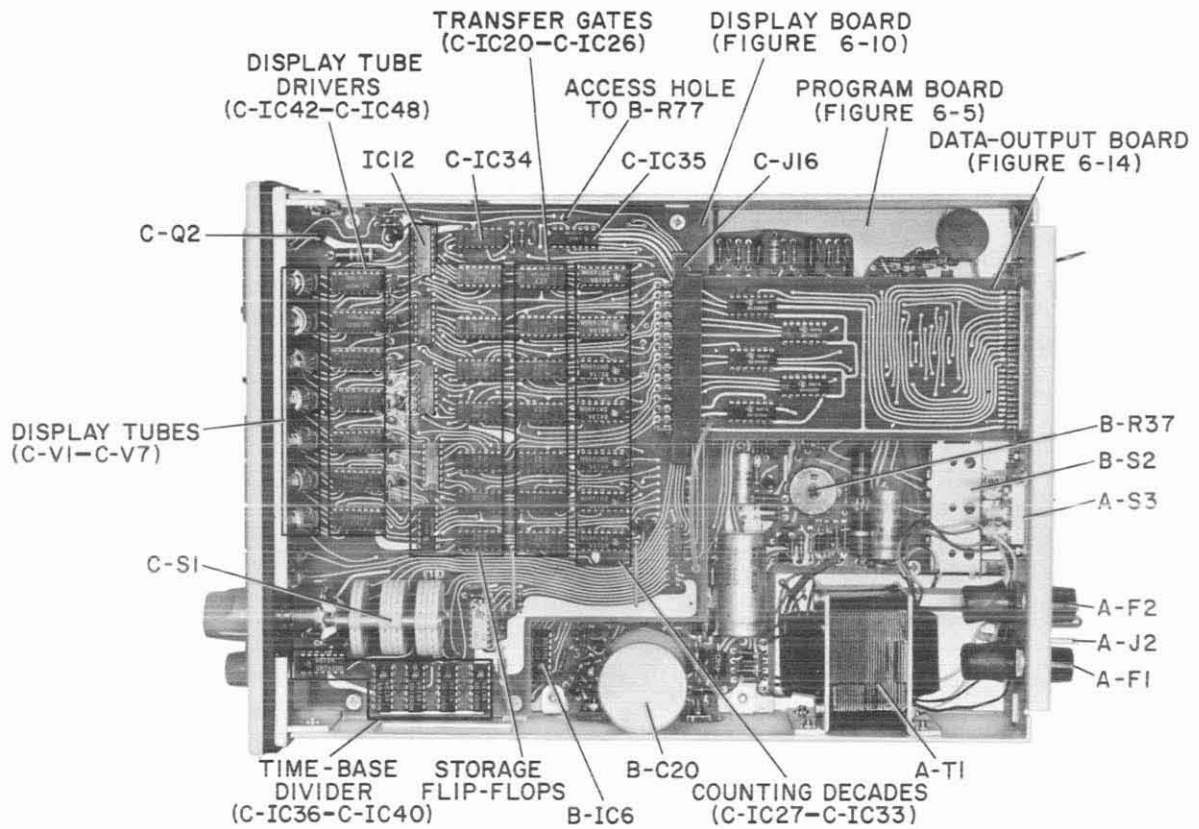

Figure 5-3. Top interior view of 1192 - all boards in place.
- b. Unplug the jumper wire from the data output board to the display board at the display board (Figure 5-3).
5.5.4 Display Board (Figure 5-3).